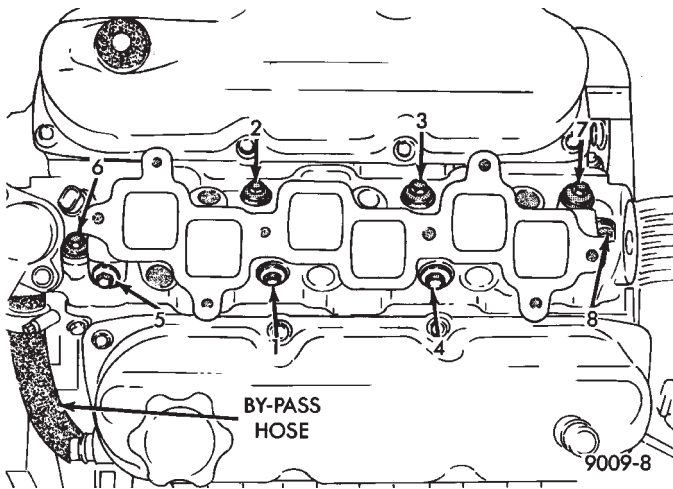
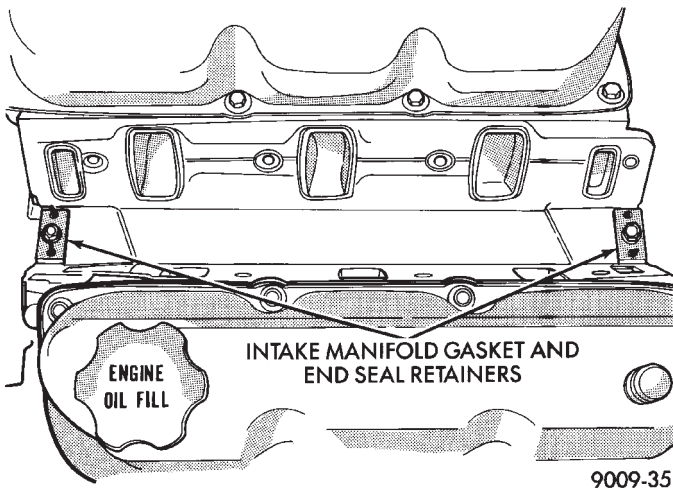

Fig. 13 Intake Manifold Removal and Installation
Fig. 14 Intake Manifold Gasket
(22) Remove upper radiator hose, bypass hose and rear intake manifold hose (Fig. 13).
(23) Remove intake manifold bolts. Remove intake manifold.
(24) Remove intake manifold seal retainers screws (Fig. 14). Remove intake manifold gasket.
(3) Carefully install the intake manifold gasket (Fig. 14). Tighten end seal retainer screws to 12 N•m (105 in. lbs.) torque.
(4) Install intake manifold and (8) bolts and tighten to 1 N•m (10 in. lbs.) torque. Then retighten bolts to 22 N•m (200 in. lbs.) torque in sequence shown in (Fig. 13). Then retighten again to 22 N•m